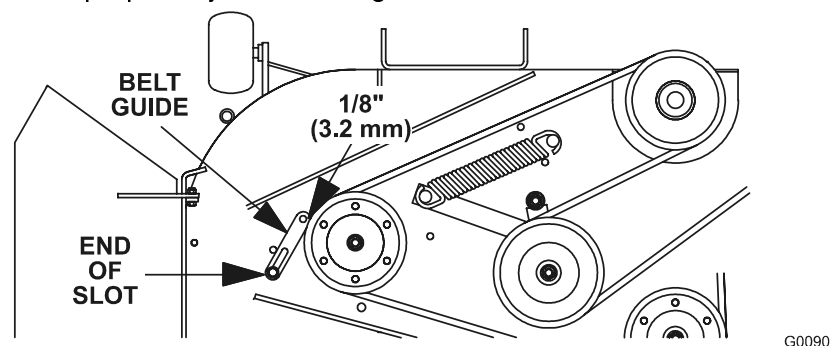

FIGURE 10
- g) Adjust anti-scalp rollers for Normal Operating Conditions. Place rollers in one of the positions shown in Figure 10. Rollers will maintain 3/4 in. (19 mm) clearance to the ground to minimize gouging and roller wear or damage.
- c) Note belt guide bolted to deck near the shield support stud and right-hand pulley. Guide should be $1/8"$ (3.2 mm) away from the belt, with bolt-end of guide near end of slot (See Figure 10).
- b) Measure the length of the spring. Measurement should be $2\ 3/4"$ (7.0 cm) between washers (see Figure 10).